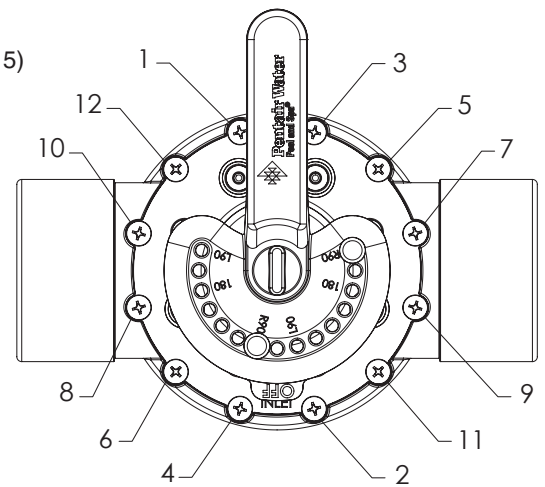

Figure 4. Diverter valve cover screws (Tightening Sequence)
To install the diverter valve top cover (see Figure 4 and 5):
3. Install the twelve (12) cover screws. Using a No. 2 Phillips screwdriver, torque the screws sequentially to 36 lb*in (4.1 N*m), using the crisscross tightening sequence shown in Figure 4.